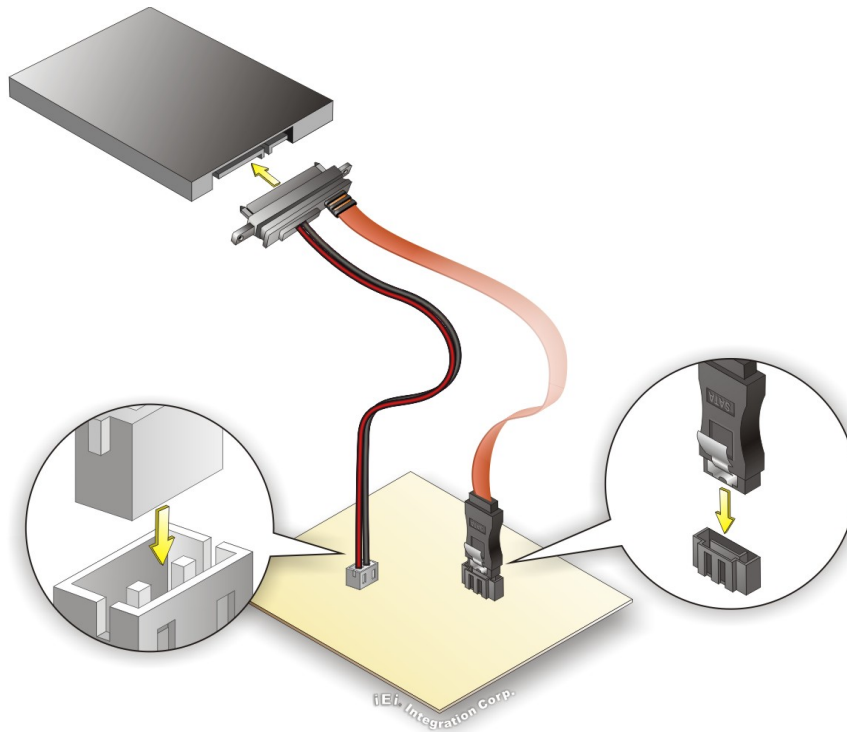

Figure 4-7: SATA Drive Cable Connection
Step 2: Insert the cable connector. Insert the cable connector into the on-board SATA drive connector and the SATA power connector. See **Figure 4-7**.
Step 3: **Connect the cable to the SATA disk.** Connect the connector on the other end of the cable to the connector at the back of the SATA drive. See **Figure 4-7**.